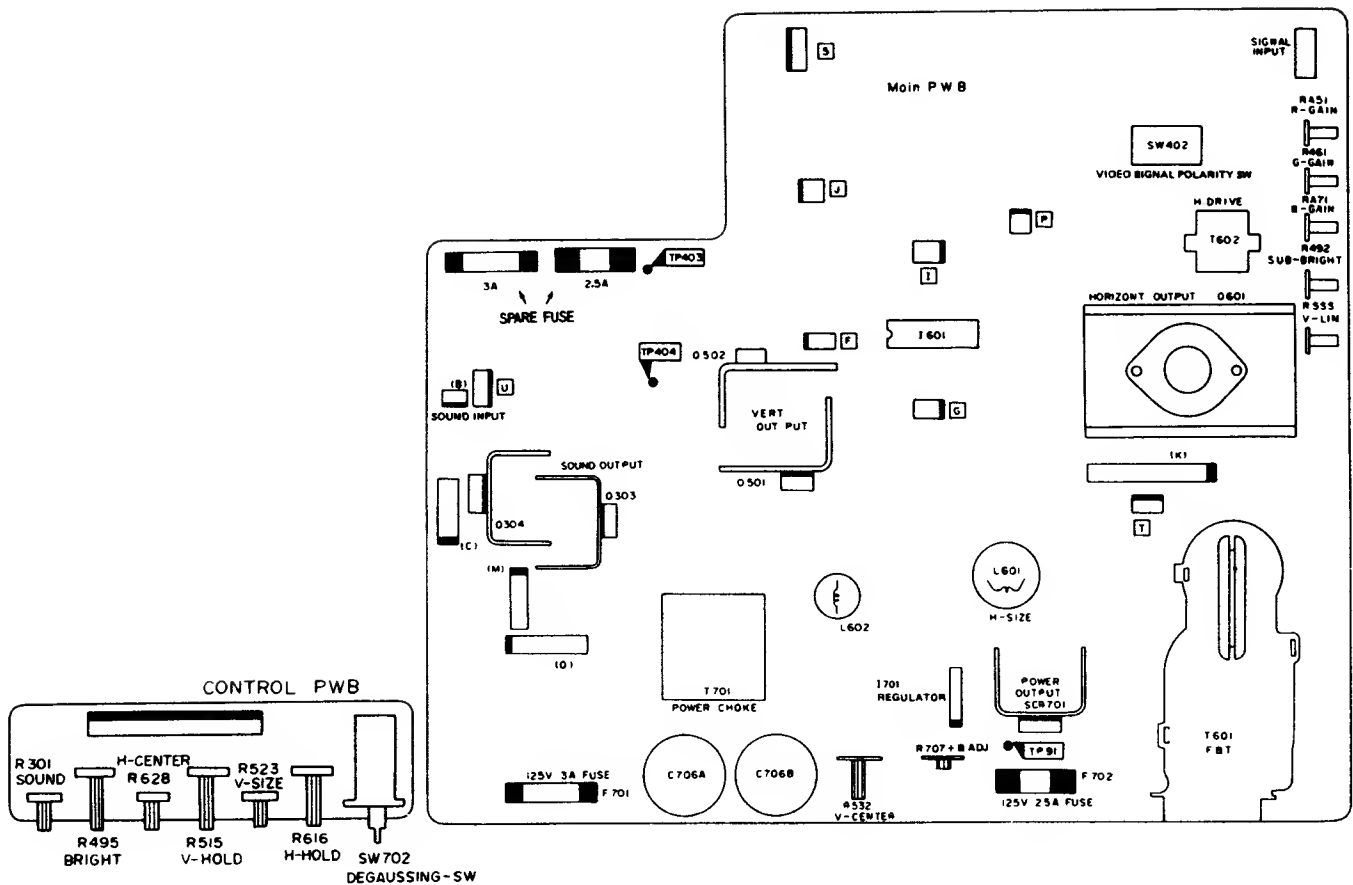
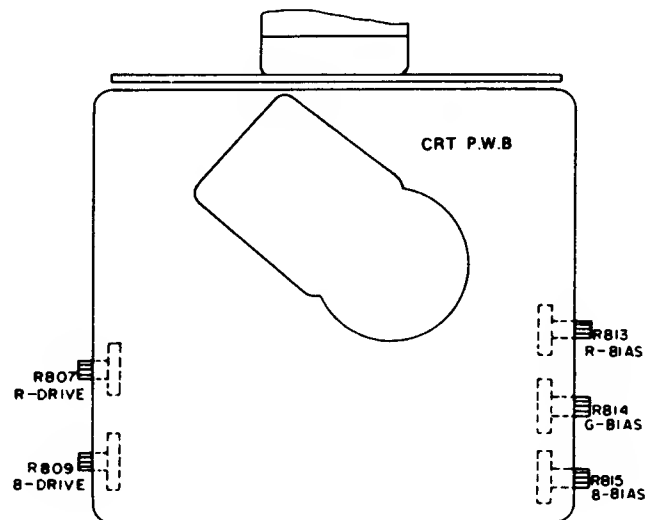

Figure 3 Adjustable Controls and Test Points on Main Chassis PCB and Control PCB
Figure 5 Adjustable Controls on Picture Tube Socket PCB
The BRIGHT control R495 should be adjusted if the picture image is either too bright or too dark. See Figure 3 for the location of the Brightness control on the Control Printed-Circuit Board (PCB).
color or brightness, and whenever the purity and convergence is adjusted. (See Figure 3 for the location of the Screen and Brightness controls and Figure 5 for the Bias and Drive controls.)
The Horizontal Centering control should be adjusted if the picture is not centered on the screen, as indicated by a black area at either the left or the right edge. Figure 3 shows the location of the H-CENT control R628 on the Control PCB. Adjust this control until a normal screen image is obtained.
The Vertical Hold control should be adjusted if the picture drifts straight up or down on the screen. Figure 3 shows the
The Vertical Size control should be adjusted if the screen image is either not filling the screen vertically, or if it is overscanning the screen vertically. Figure 3 shows the location of V-SIZE control R523 on the Control PCB.
The Horizontal Width coil should be adjusted if the screen image is either too wide or narrow. Figure 3 shows the location of HORIZ WIDTH coil L601 on the Main Chassis PCB.
The Focus control should be adjusted if the screen image is not sharply defined. The Focus control is attached to the top of the horizontal-output transformer as shown in Figure 3. Turn this control until you get optimum screen sharpness.
The Horizontal Hold control should be adjusted if the picture is drifting sideways across the screen. Figure 3 shows the location of H-HOLD control R616 on the Control PCB. Adjust this control until the black lines no longer slant downward or upward and you get a normal screen image.
- c. Adjust the Screen control for a dimly-lighted screen. This control is attached to the horizontal-output transformer as shown in Figure 3.
- a. Turn off the green and blue guns of the CRT by rotating the G-BIAS R814 and B-BIAS R815 controls to the fully counterclockwise position. (See Figure 5 for the location of the Bias adjustments.)